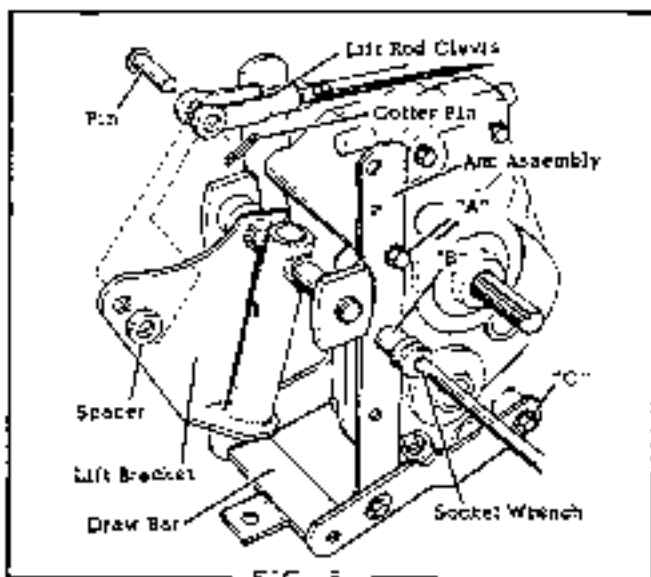

FIG. 5
9. Disconnect the lift rod clevis from the rear lift bracket by removing the cotter pin, spacer, and pin as shown in Fig. 5. Remove hex capscrews "A", "B", and "C" from both sides of the arm assembly and lift off the drawbar, rear lift bracket, and arm assembly as one piece.